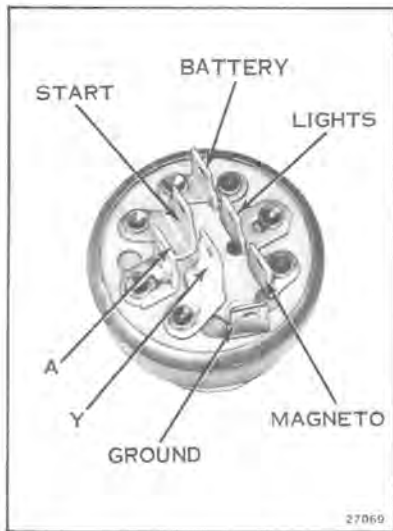

Figure 7-16
- C. If less than 500k ohm reading, remove terminal connectors from ignition switch (see Figure 7-16) and remove ignition switch from dash panel. Turn ignition key to "RUN" position and take a resistance reading across the magneto and ground terminal of the ignition switch. See Figure 7-16. Use high ohm scale for test #7.